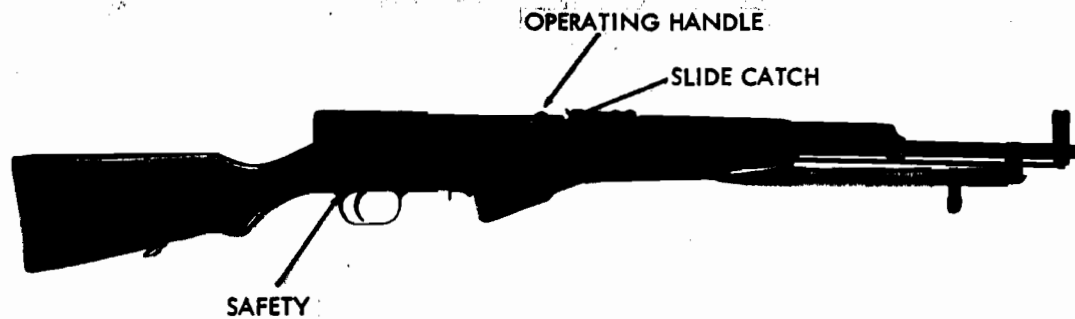

Figure 43. 7.62-mm Simonov semiautomatic carbine (SKS).
a. The Soviet-designed Simonov semiautomatic carbine (fig. 43), a gas-operated, integral box-magazine-fed weapon, now obsolete in the Soviet Army, is used by most of the other Eurasian Communist countries. This weapon has been manufactured in East Germany as the Karabiner-S (fig. 44), in Communist China as the Type 56 semiautomatic carbine, and in North Korea as the Type 63 carbine. The country of origin can be determined by the markings. The Soviet and East German weapons usually carry the year of manufacture and
a. Grasp the operating handle (fig. 43) and pull it fully to the rear and release. If the magazine is empty, the bolt will remain open. Insert a stripper clip into the clip guides at the top front of the bolt carrier and, with the thumb as close as possible to the base of the top cartridge, press the cartridges off the clip and into the magazine (fig. 45). Remove the empty clip. If clipped ammunition is not available, individual cartridges can be placed on top of the magazine and pressed down into the magazine until it is full. Pull the operating handle rearward and release; the bolt will run forward and chamber a cartridge. Caution: The rifle is now ready to fire!
b. If the rifle is not to be fired immediately, apply the safety (fig. 43) by rotating it forward and upward.
c. Set the rear sight for the desired range by depressing the slide catch (fig. 43) and moving the sight bar along the leaf until the front edge of the bar is alined with the line below the number that corresponds with the range in hundreds of meters. The first character on the sight leaf is a battle-sight setting used in combat for shooting at ranges up to 300 meters.
d. The front sight is adjustable for zero. Refer to paragraph 57b(2) for the procedure to be followed.